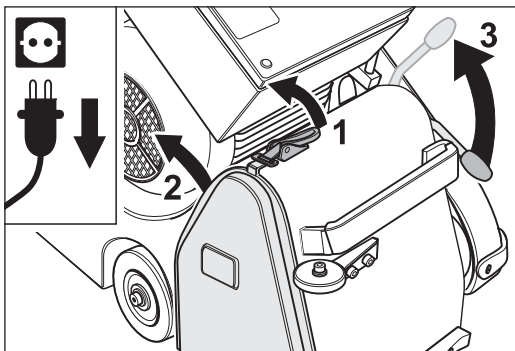

Fig. 86 Release the cover lock (1), remove the side cover (2) and lower the tensioning roller by pulling up the operating lever (3).
- 3 Release the cover lock (fig. 86, 1) and remove the side cover on the right of the machine housing (fig. 86, 2).
- 4 Pull the operating lever of the drive unit upwards (fig. 86, 3). This will lower the tensioning roller.